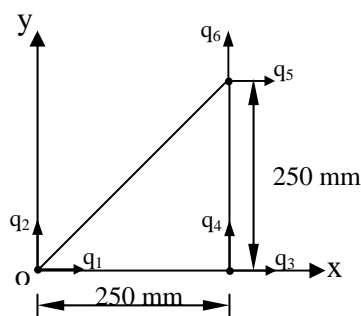

Fig.2
- b) Calculate the element stresses for the element shown in fig. 2 for plane stress condition when nodal displacements are as given below: